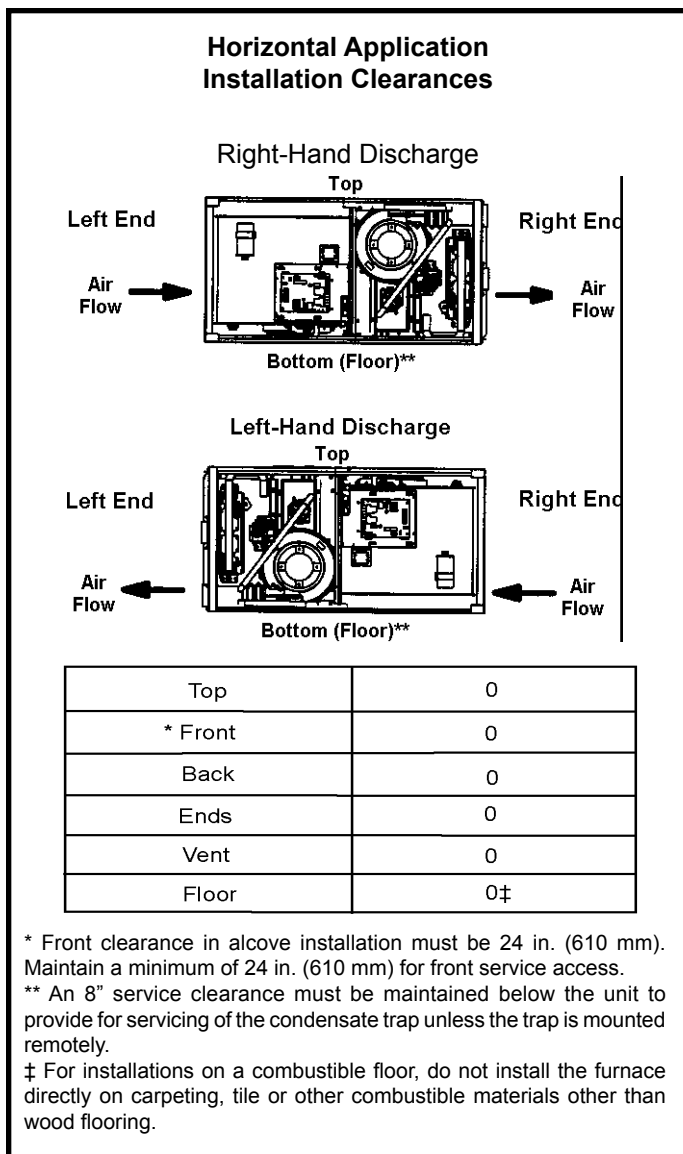

Figure 17
Refer to Figure 17 for clearances in horizontal applications.
1. Select location for unit keeping in mind service and other necessary clearances. See Figure 17.